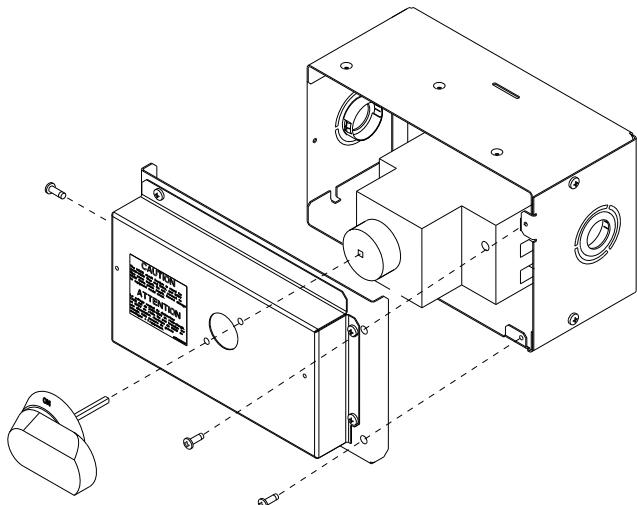

Fig. 31 – HACR Handle and Shaft Assembly
2. Remove (3) cap head screws that secure the HACR enclosure front cover — (2) on the face of the cover and (1) on the left side cover. See Fig. 31.
5. Insert the shaft all the way with the cross pin on the top of the shaft in the horizontal position. See Fig. 31.
9. Secure the handle to the painted cover with (2) screws and lock washers supplied.
10. Engaging the shaft into the handle socket, re-install (3) hex screws on the HACR enclosure.